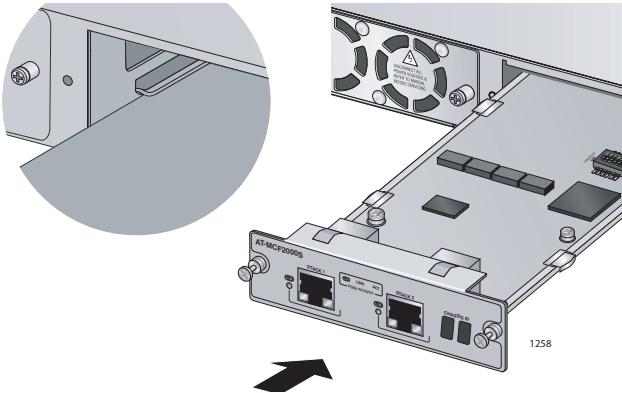

Figure 4. Installing the AT-MCF2000S Stacking Module
5. Align the edges of the module with the guides in the slot and carefully slide the module into the chassis until it is flush with the back panel of the chassis. See Figure 4 on page 21.